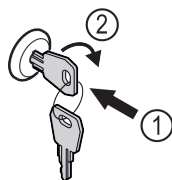

Fig. 102 Example illustration
- Insert key Fig. 102 (1).
- Turn key clockwise by 90° Fig. 102 (2).